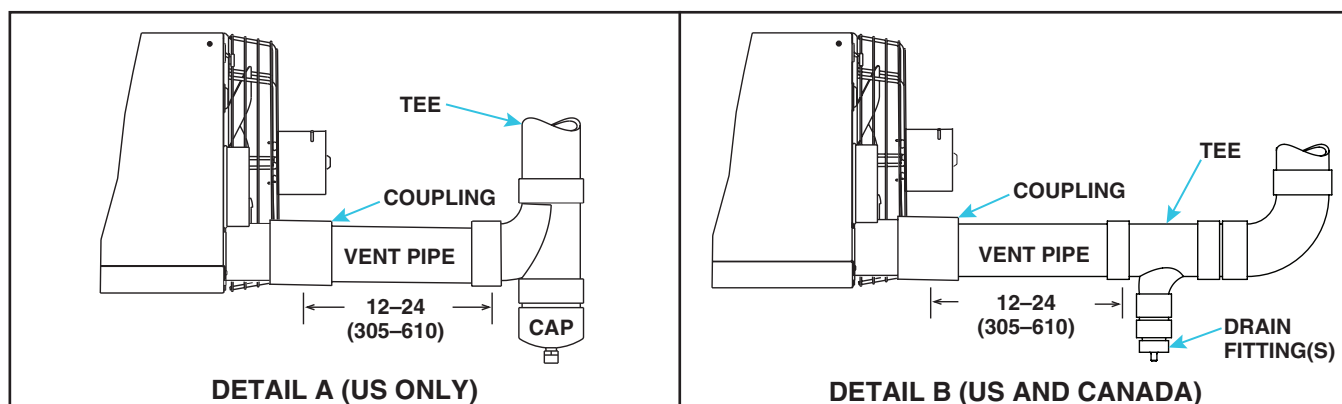

Figure 22. Installing Condensate Drain in Vertical Vent (Unit Sizes 130–310)
1. For vertical vent (see Figure 22):
- c. For US installations only (see Figure 22, DETAIL A):
- (1) Connect field-supplied 4 × 4 × 4 PVC tee to vent pipe.
- (2) Connect PVC cap included in option CC2 to tee. Cap is drilled and tapped for 1/2-inch NPT drain connection.
- (3) Connect field-supplied condensate drain to cap.
- d. For US or Canadian installations (see Figure 22, DETAIL B):
- (1) Connect field-supplied PVC tee to vent pipe.
- (2) Connect field-supplied fitting(s) to tee as needed for 1/2-inch or larger condensate drain line.